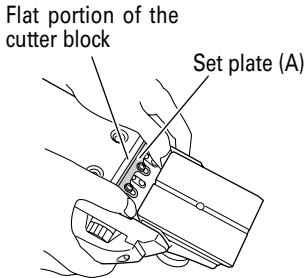

Fig. 9
- (1) Insert a turned portion of set plate (A) attached to the blade into a groove on the flat portion of the cutter block. (Fig. 9, 10)